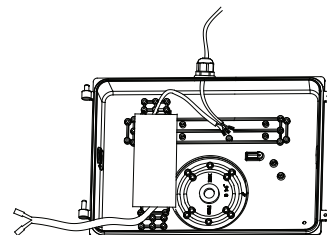

Figure 4
4. After installing the bottom plate, pull the outside wiring into the fixture by the waterproof connector, and tighten the screws on the connector. Make wiring connections per "Electrical Connections" section and make sure the good wire protection. (Figure 4)